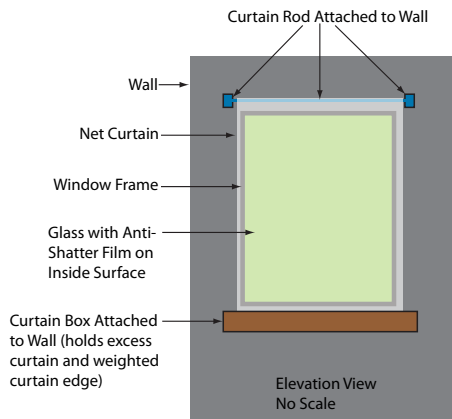

Figure 3: FRF Plus Net Curtain.
*FRF Plus Net Curtain* – Another enhancement for daylight-applied FRF is to install a polyester curtain that is hung from a rod above the filmed glass, on the interior, and has weights sewn into it at the bottom, where excess material is housed in a box (Figure 3). Once again, in a blast event, the FRF will hold the glass together; in this case, if it shears off around the perimeter, the net curtain will catch the entire pane and drop it to the floor. Substantial anchorage to the wall is required for both the rod and the box, and